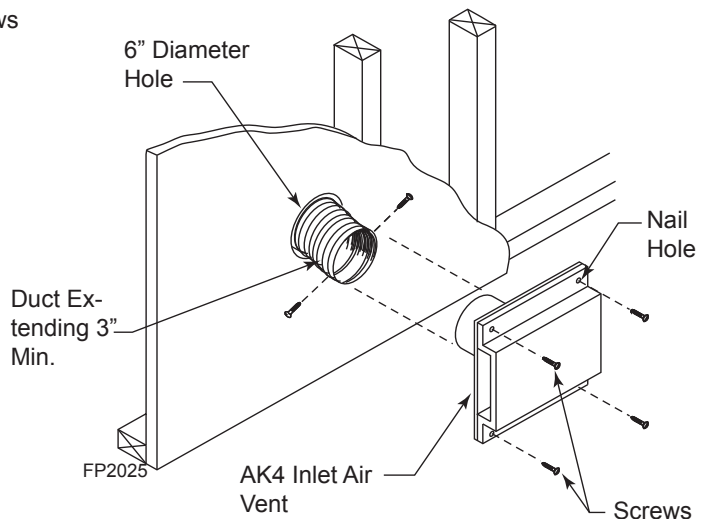

Figure 16
3. Cut a 6" diameter opening for model AK4 in the outside wall covering where the outside vent is to be located. *Figure 16*
5. If using insulating duct, push the insulation back from one end of the duct approximately 2". *Figure 16*